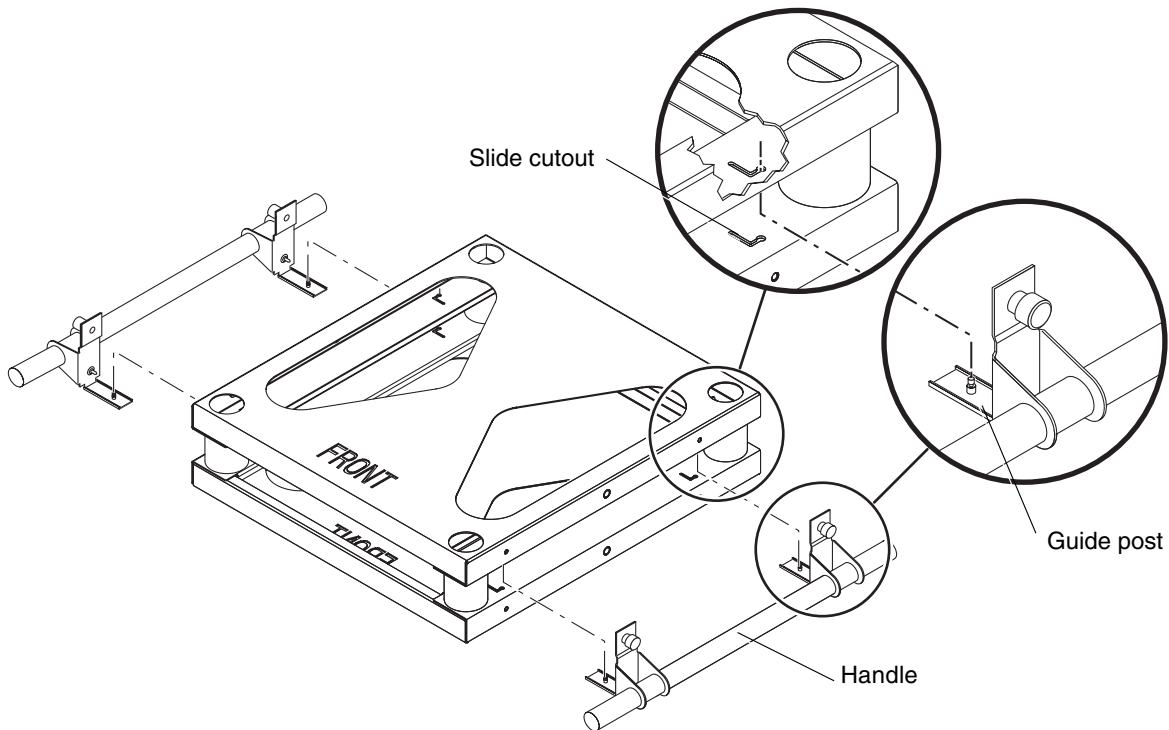
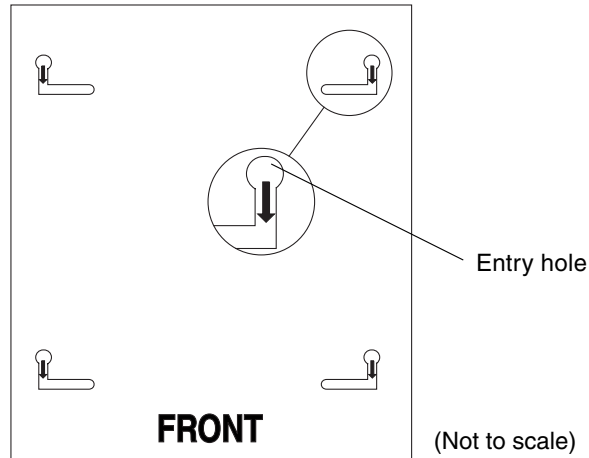

FIGURE 3-5 Shipping Cradle Details
FIGURE 3-6 Slide Cutouts
Note – In the following illustrations, right and left orientation are as you face the word “FRONT” on the base plate (FIGURE 3-5). The top and bottom halves of the base plate are identical. Start with either the top or bottom half facing upward.
- a. Align the two guide posts on the handle with the entry holes on the L-shaped shipping cradle slide cutouts (FIGURE 3-5).
- b. Raise the handle so that the tops of the front and rear guide posts fit into the entry holes in the cutouts (FIGURE 3-5 and FIGURE 3-6).
- c. Slide the handle and guide posts toward the front of the shipping cradle (FIGURE 3-6).
8. Pull both shipping cradle handles away from the system (FIGURE 3-5).